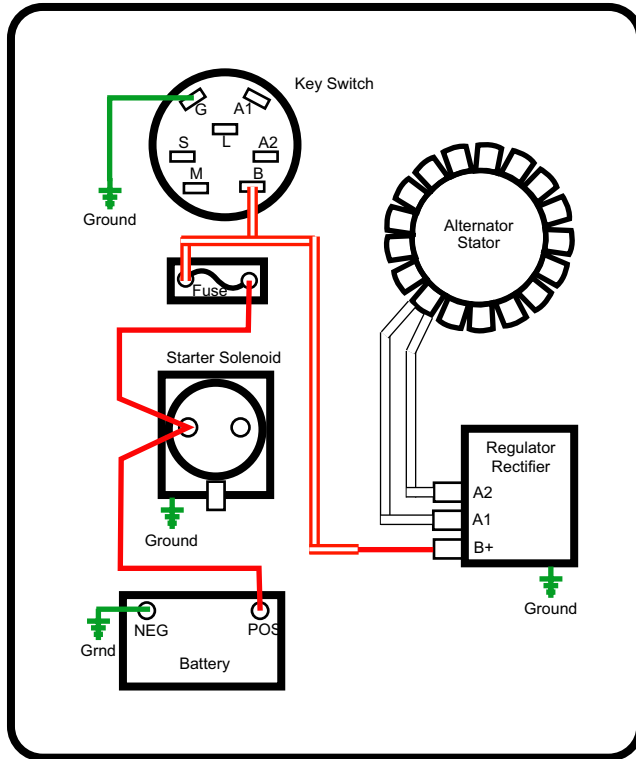

Figure 7.22
5. From the harness connector: See Figure 7.22.